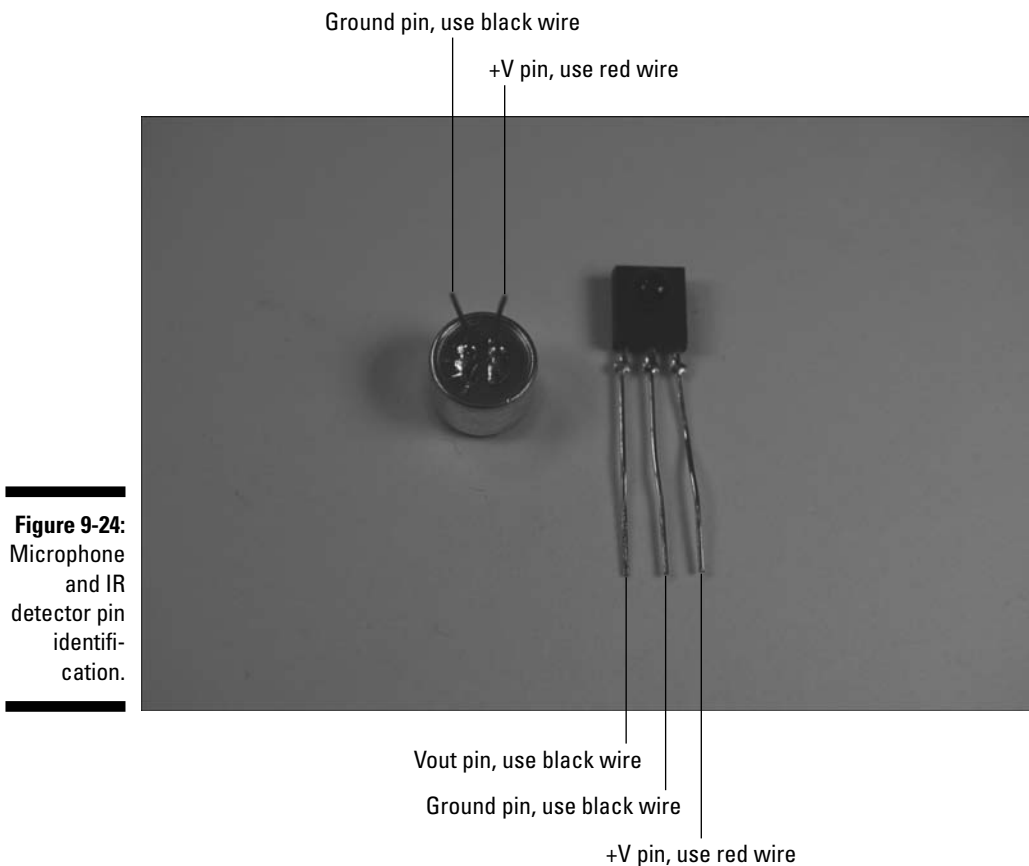

Figure 9-25:
8. **Connect a 6" red wire and a 6" black wire to the microphone pins, as indicated in Figure 9-24. Then solder them, as shown in upcoming Figure 9-25.**
9. **Connect a 6" red wire and two 6" black wires to the IR detector pins, as indicated in Figure 9-24; then solder them, as shown in upcoming Figure 9-25.**
10. Connect two 10" wires (any color works) to the record switch and solder them, as shown in Figure 9-25.